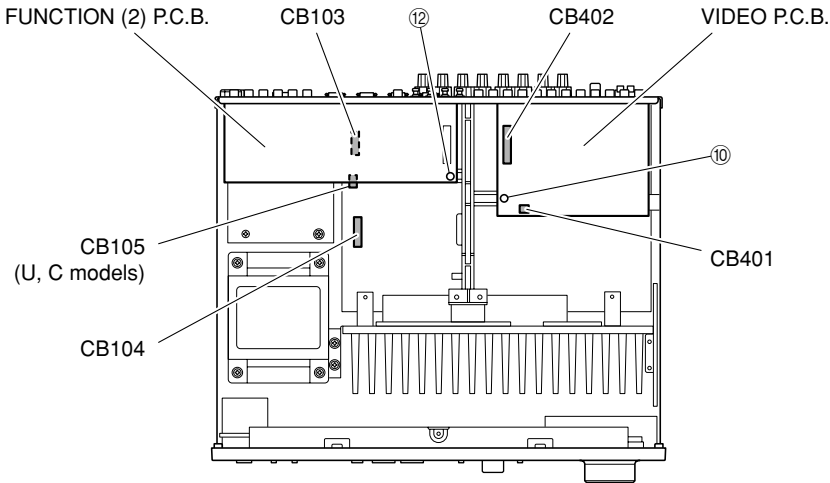

Fig. 3
- a. Remove 1 push rivet (10). (Fig. 3)
- c. Remove CB401 and CB402. (Fig. 3)
- b. Remove the VIDEO P.C.B.. (Fig. 3)
6. Removal of FUNCTION (2) P.C.B.
- a. Remove 1 push rivet (12). (Fig. 3)
- c. Remove the FUNCTION (2) P.C.B.. (Fig. 3)
- d. Remove CB103, CB104 and CB105 (U, C models). (Fig. 3)